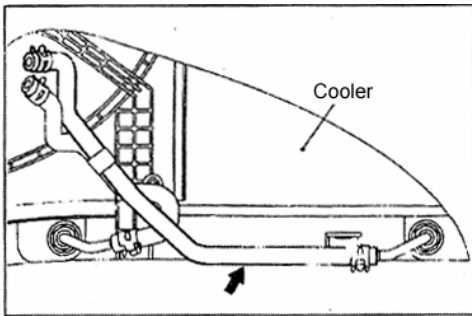

Fig 11A-186
- (1) As Fig.11A-186 ,remove the hose ,allows the ATF to flow from the ATF cooler(built into the radiator) to the transmission .